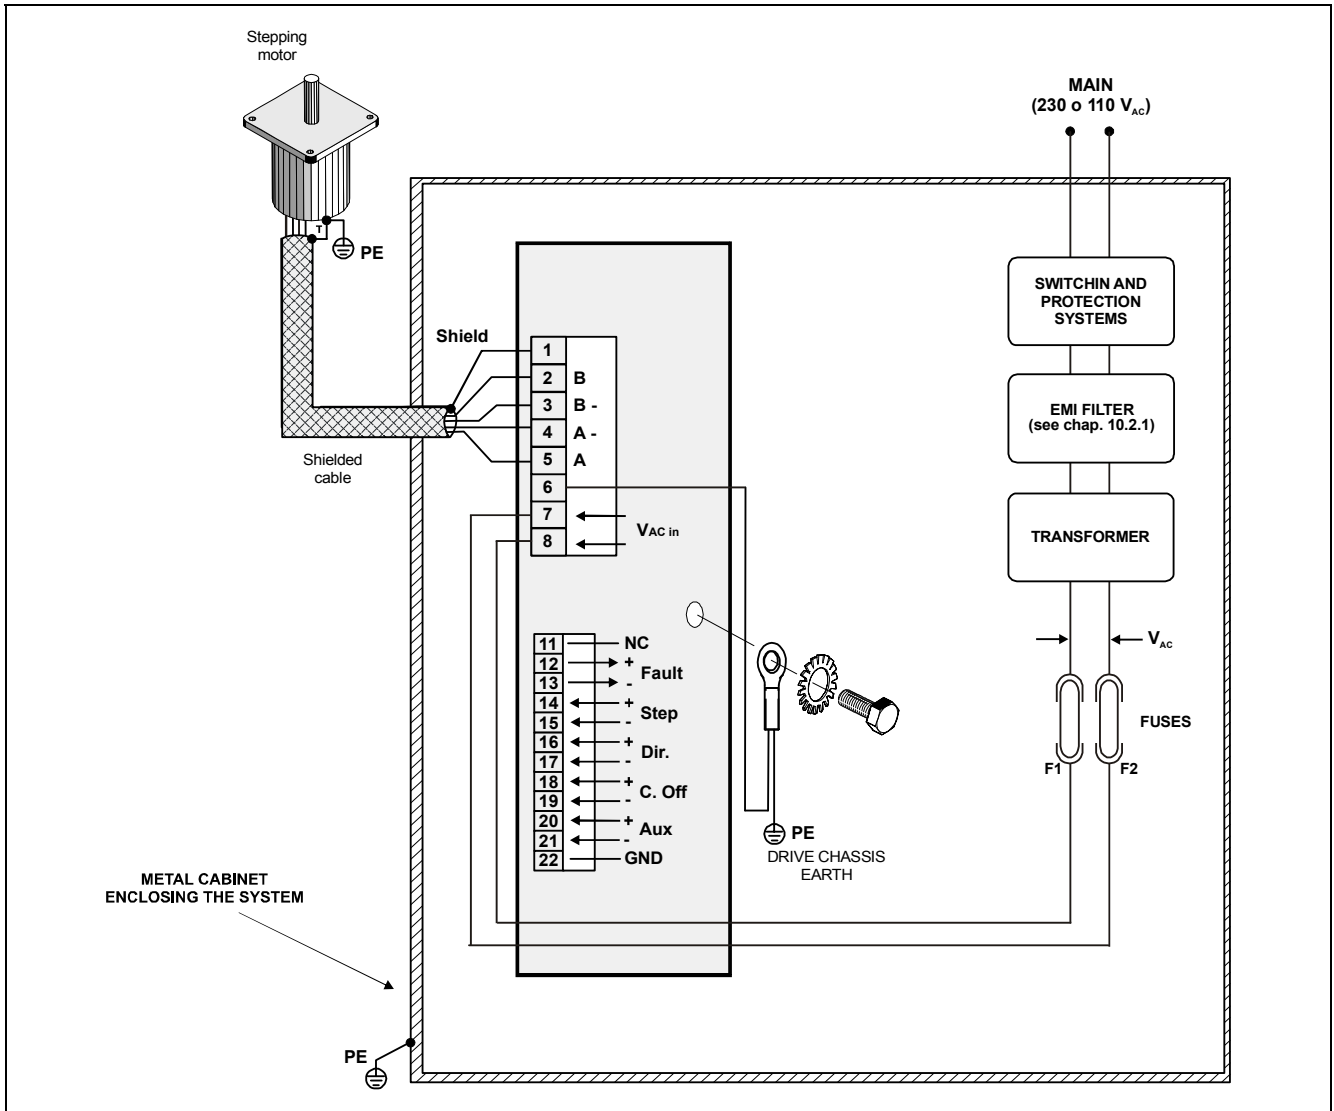

Fig. 6 – Drive external connections scheme.
- 7.3- The use of one secondary winding for more drives (max 3 drives) is allowed only if the total power required by the drives is less than 600VA. In any case, two fuses (F1 and F2 showed in Figure 6) for each drive must be used.
- 7.4- **Branch circuit protection fuses F1 and F2 (see Fig. 6) must be 10 Amp, at least 250 Volt with I^2t between 150 A²s and 400 A²s (for example Cooper Bussman model KTK-R-10 or Littelfuse 215010.P).**